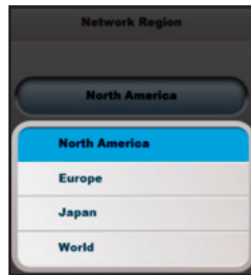

Figure 4-44 Network Region Selections
17.3.4.1 Press the button below Network Region then select region from list that is appropriate for country where system will be used (see Figure 4-44). Note: For systems with software 3.0 and above, the Network Region setting is located in Service mode on the Configuration/Region tab.